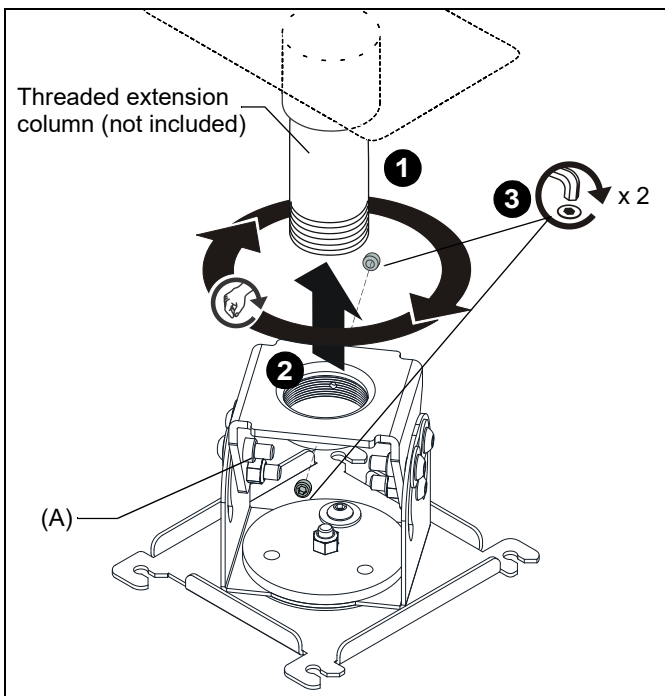

Figure 1
2. Thread VPAU projector mount (A) onto the threaded extension column (not included) until hand tight, with a minimum of four threads engaged.
3. Secure VPAU to pipe by installing and tightening one or two 10-24 x 1/4" set screws (J) until tight. (See Figure 1)